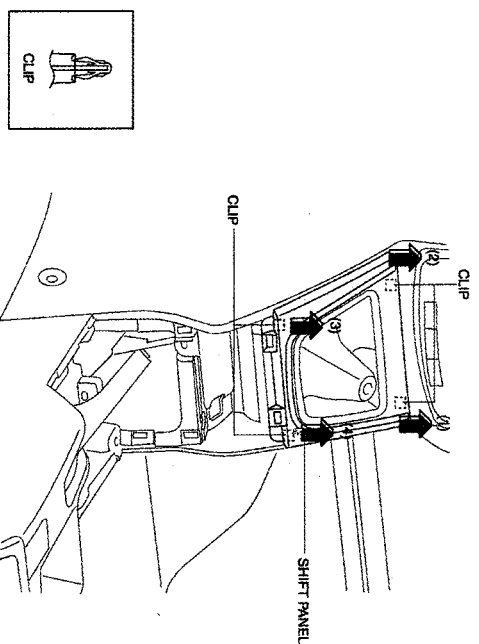

FIGURE 13
- 2.) PULL THE SHIFT PANEL IN THE DIRECTION OF THE ARROWS (1), (2), (3) AND (4) WHILE REMOVING THE CLIPS. (SEE FIGURE 13)